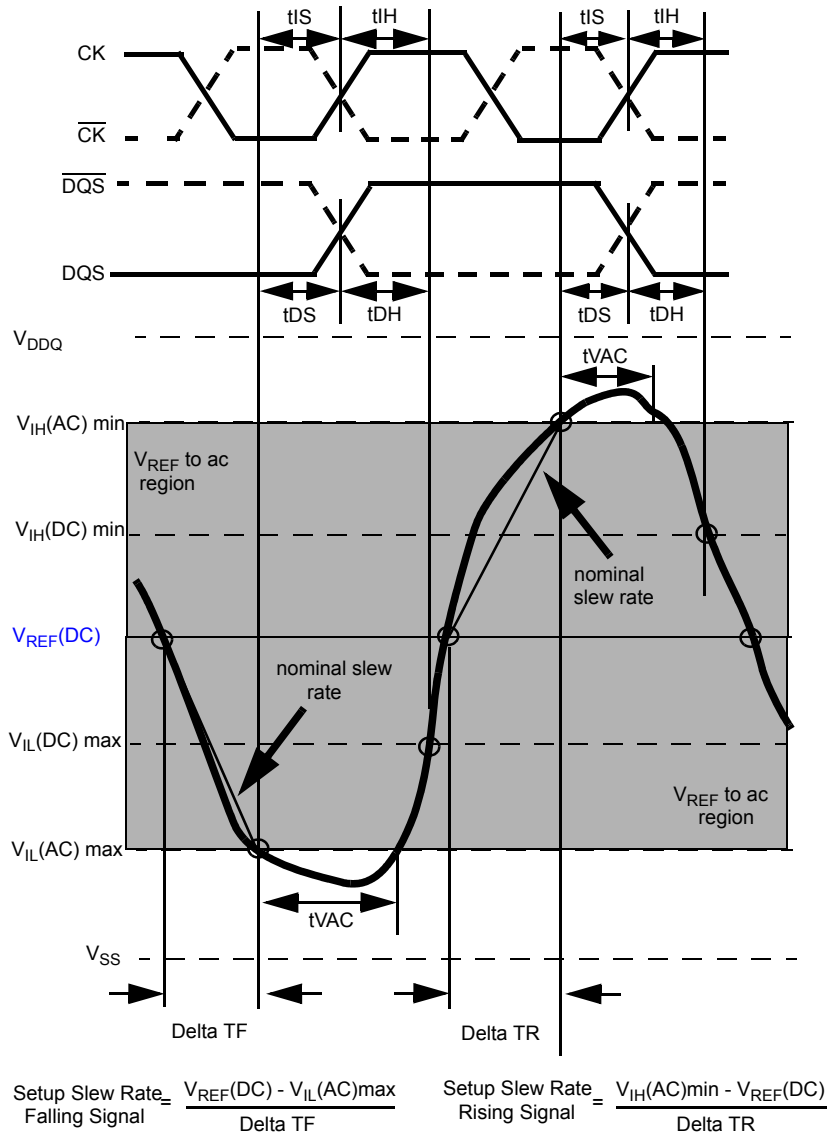

Figure 25 - Illustration of nominal slew rate and tVAC for setup time tDS (for DQ with respect to strobe) and tIS (for ADD/CMD with respect to clock).
Setup (tDS) nominal slew rate for a falling signal is defined as the slew rate between the last crossing of VREF(DC) and the first crossing of VIL(AC)max (see Figure 25). If the actual signal is always earlier than the nominal slew rate line between shaded 'VREF(DC) to ac region', use nominal slew rate for derating value. If the actual signal is later than the nominal slew rate line anywhere